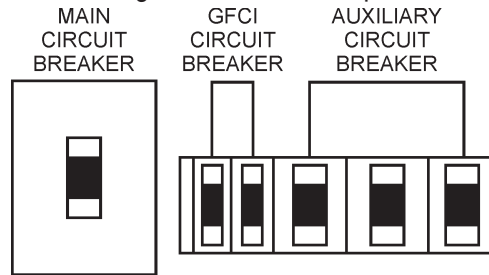

Figure 54. Main, GFCI and Load Circuit Breakers Off
- Place both the **MAIN, GFCI and LOAD** circuit breakers as shown in Figure 54 to the **OFF** position..